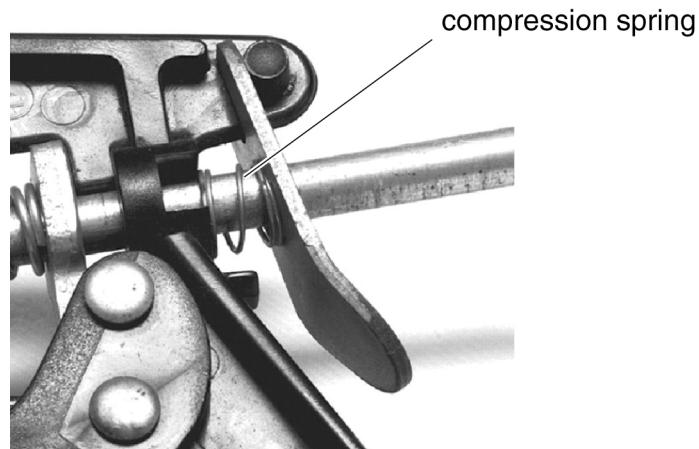

Fig. 7
- (iii) The release lever which removes pressure from the sealant tube is shown in Fig. 7. Effort is provided by thumb pressure on the lever. State the load being moved by the lever.